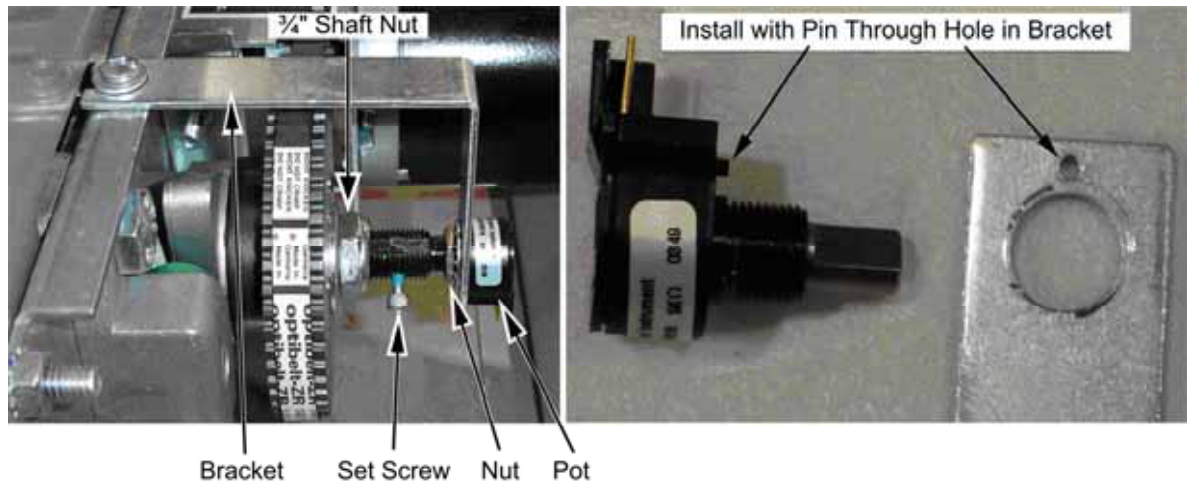
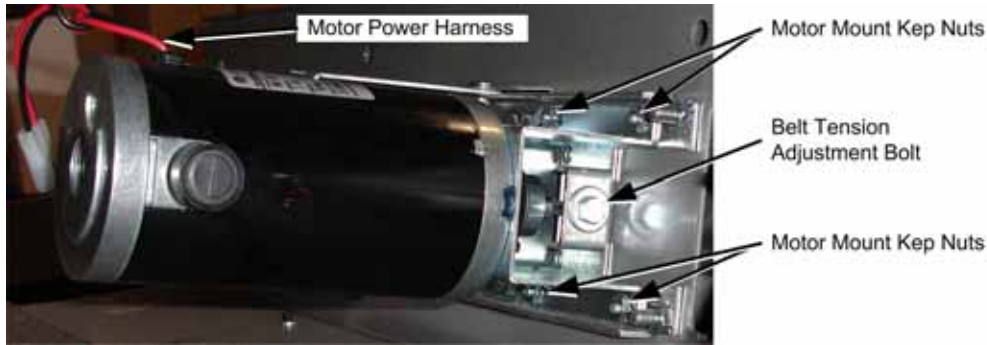

Figure 19. Replacing the 5 K Ω Steering Pot
Figure 20. Servicing the Steering Motor
To replace a pot, refer to Figure 19 and perform the following steps:
4. Reverse these steps to install the new pot. Install the pot with the plastic pin through the small hole in the bracket, as shown in Figure 19. Use Loctite Blue to ensure the set screw is secure.
Refer to Figure 19 above, and Figure 20, and perform the following steps to remove the force-feedback belt for repair.
2. Using a 7/64 Allan wrench, loosen the set screw from the steering column and remove the bracket with the pot attached (see Figure 20).
3. Loosen the four (4) 3/8" motor mount Kep nuts that secure the steering motor to the frame (see Figure 20).
4. Using a 10mm socket wrench, loosen the belt tension adjustment bolt several turns until you can slip the belt off of the motor and steering gears (see Figure 20).
6. To replace the motor, remove the four (4) 3/8" Kep nuts that you loosened in step 2, and remove the motor.
1. Tighten the tension adjustment bolt on the motor assembly, shown in Figure 20, until the belt is fully stretched, and then loosen the bolt by ½ turn.